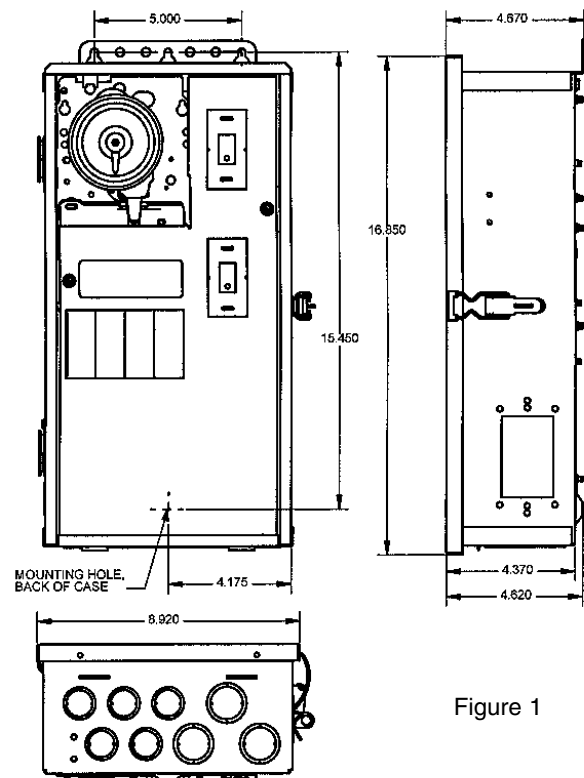

Figure 1
4. Refer to Figure 1 below; note that this enclosure contains one Time Switch and up to four full size circuit breakers. To wire the panel, follow the wiring diagram located inside the enclosure door. Make sure that connections to time switch terminals are tight (25 lb.-in. minimum) and insulation clears the pressure plate - see illustration.